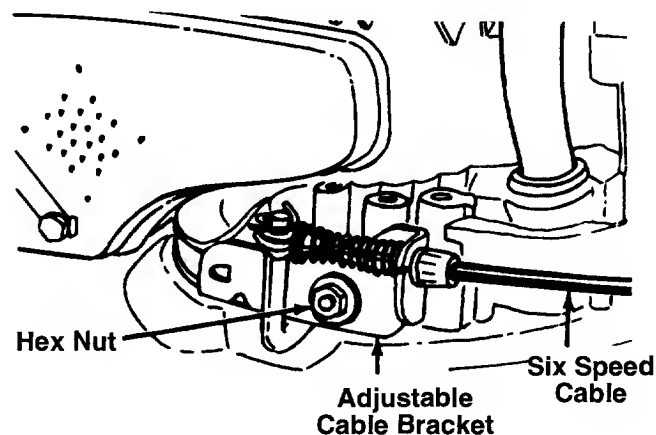

FIGURE 14.
- Loosen the nut which secures the adjustable cable bracket, located on the left side of the engine. See figure 14.
- Place the shift lever in high speed (6) position.